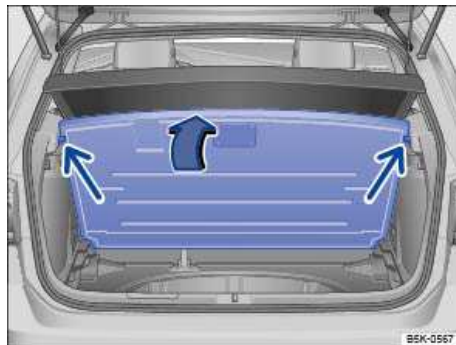

Fig. 167 In the luggage compartment: Floor covering raised and secured.
- Lift the floor covering and secure it in the stops on either side of the luggage compartment ⇒ fig. 167 (small arrows).